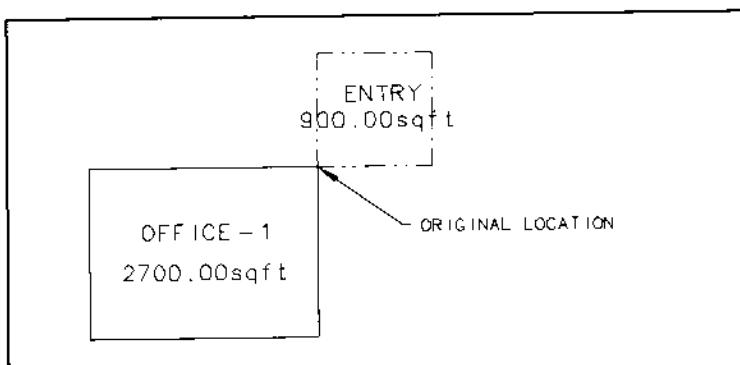
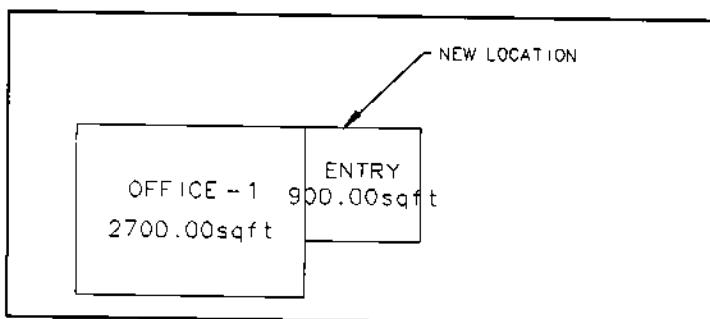

Figure 24.
Figure 25.
3. Place the area at the intersection of the upper right corner of OFFICE-1, shown in Figure 24, and relocate the area when prompted as shown in Figure 25.
- > Pick insertion point: [pick a point or locate the area as shown in Figure 24]
- > Pick second point: INT of [intersection at upper right corner of OFFICE-1 as shown in Figure 25]